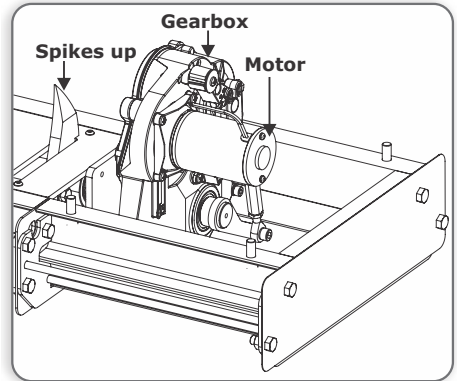

FIGURE 44. ADJUSTING THE SPIKES – INDEPENDENT DRIVE
1. Using a 12V battery, drive the motor so that the drive arm rests up on the endstop when the spikes are in the "UP" position as shown in Figure 44.